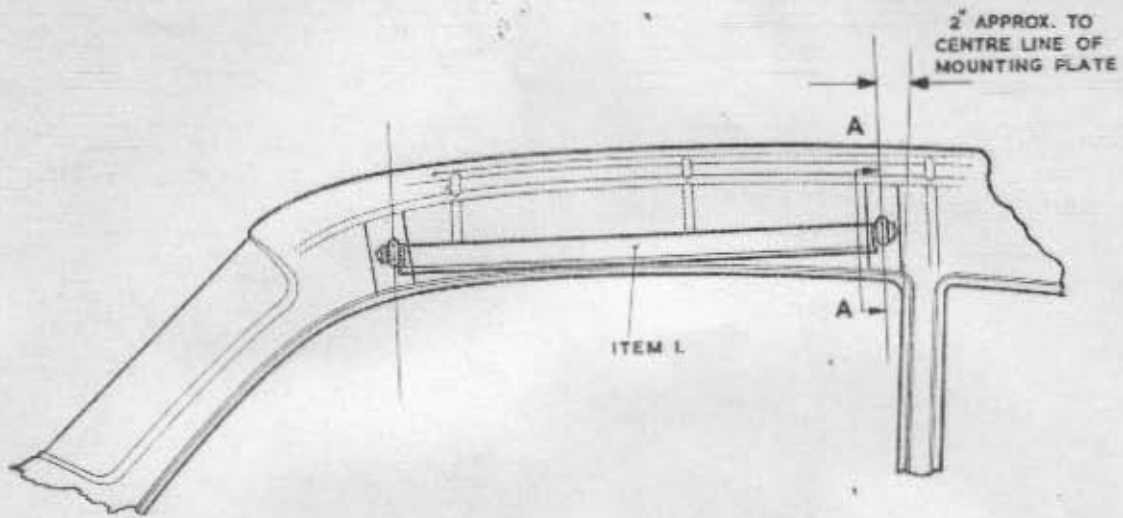

FIG 1.
1. Referring to Fig.1 and Fig.2, measure 2in. on the roof lining forward of the rear door pillar line. Using hard hand pressure, locate the bracket behind the roof lining and check that the 2in. dimension is approximately central with it. If not, adjust the distance accordingly and lightly mark the centre line.